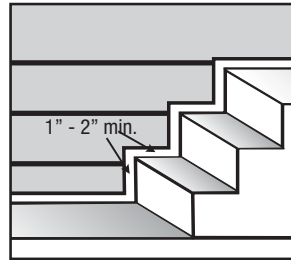
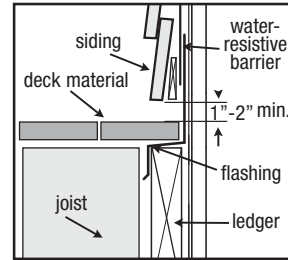

FIGURE 8
FIGURE 9
- Maintain a 1"-2" minimum clearance between James Hardie® products and paths, steps and driveways (fig. 8 and fig. 9)